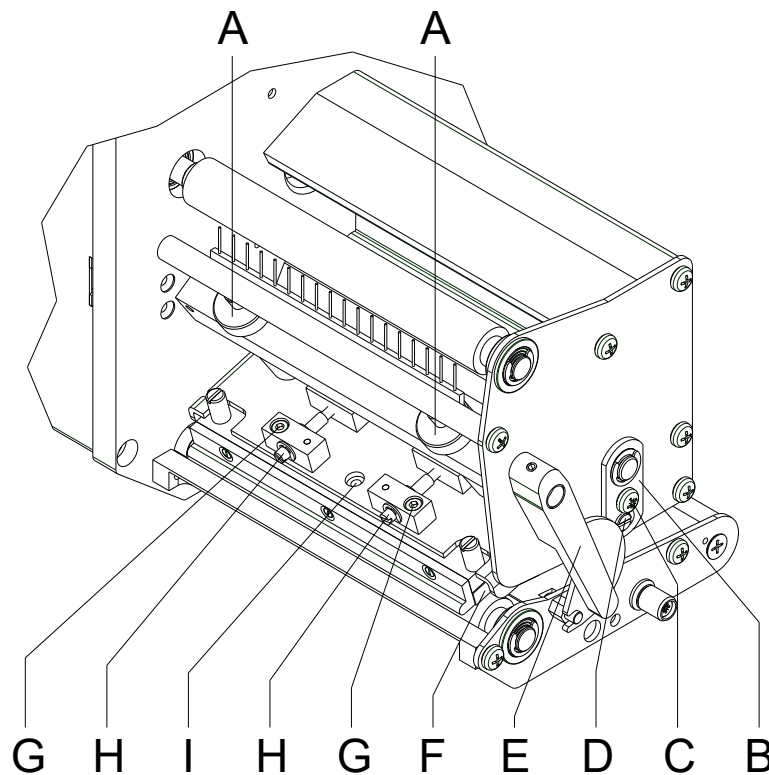

Figure 22
After adjusting parallelism and no even strong pressure exists over the complete print width, by means of a plate (B, Figure 22) you can set the balance.
1. Loosen the screw (C, Figure 22) with a screwdriver by approx. ¼ rotations.
2. In order to achieve a pressure balance, turn the eccentric bolt (D, Figure 22) as long as the printing result comes up to your full expectation.
3. Tighten again the screw (C, Figure 22).
1. Turn the pressure screws (A, Figure 22) to change the pressure of printhead.
2. Turning of pressure screws (A, Figure 22) as far as they will go in clockwise direction results in a pressure increase of 10N in contrast to the factory settings.
3. Turning of pressure screws (A, Figure 22) exactly one rotation from the right stop position counter clockwise results in the factory settings.